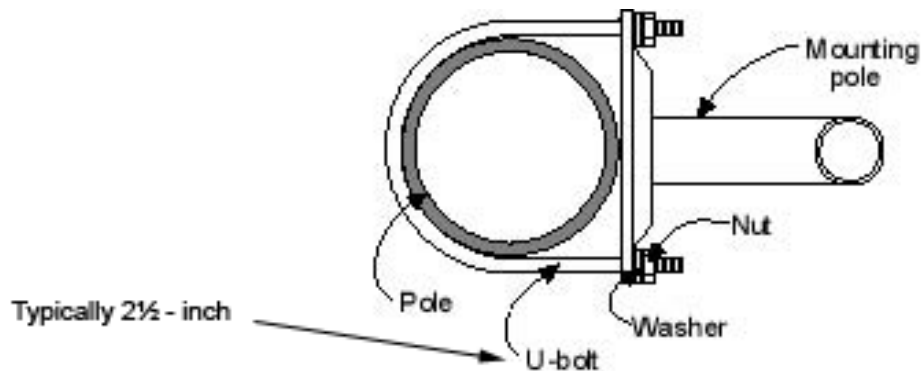

Figure 4-2 Mounting Pole Installed on Pole or Antenna Mast
- 2) Insert the U-bolts around the mast (Figure 4-2) and through the holes in the mounting pole. Install a washer and nut to each side of the threaded U-bolt and hand tighten. Repeat this step for the second U-bolt.